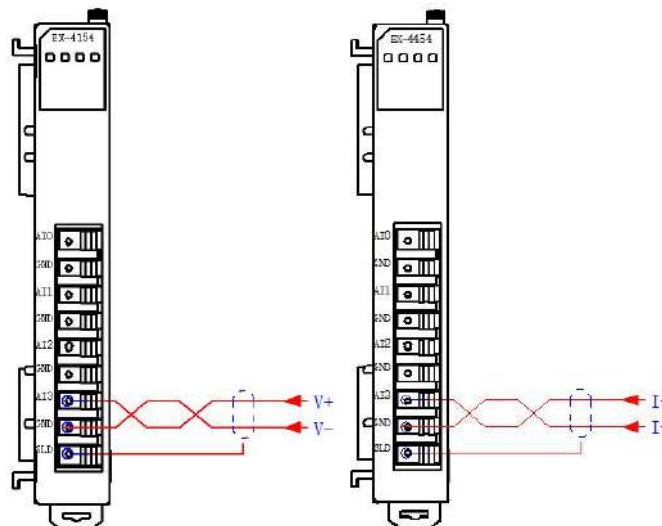

Figure 4-11 Wiring diagram of voltage input signals
- Figure 4-11 shows the module wiring diagram for EX-4014, EX-4114, EX-4054, EX-4154, EX-4018, and EX-4118.